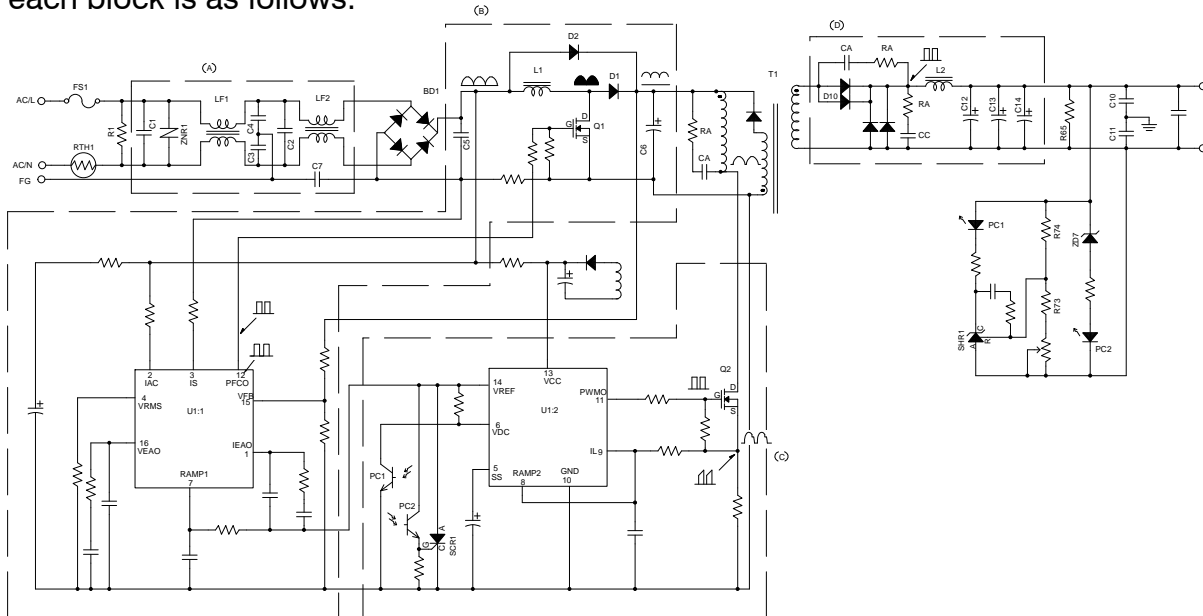

Figure 1.13 PFC+PWM Forward circuit
Figure 1.13 shows a typical Forward circuit with PFC and PWM. The functionality of each block is as follows:
- (1) Inrush Current Limiting - RTH1 (thermistor) suppresses the inrush current during cold start. Thermistor is a resistor whose resistance changes in indirect proportion to temperature, which is why it is called a NTC (Negative Temperature Coefficient) Thermistor. At cold start, the high resistance suppresses inrush current; after starting up for a while, the resistance decreases to reduce power consumption in normal operation. S.P.S. of middle/high power rating uses a circuit comprising TRIAC and relay to have lower conduction loss. Please refer to Section 2.3 for detailed information.
- (2) Anti-Lightning Surge – ZNR1 (transient/surge absorber) is a resistive component. Part number 471, commonly used in our products, it possesses high resistance at normal condition. As the voltage across it increases, its conductivity also increases; the resistance decreases greatly when the voltage across it reaches 470VDC or 332VAC, and the conductive current is around 1mA. With that characteristic, the transient/surge absorber is able to bypass the abnormal surge voltage so as to effectively inhibit the surge voltage from entering the S.P.S.
- (3) EMI filter – As show in block (A) of figure 1.13 (excluding ZNR1, the surge absorber), this module of EMI filter is commonly used at the input side of our products to filter out noises interference. Basically, it consists of three types of components, which are X capacitor, Y capacitor, and common-mode choke. The functionality of each component in block (A) is as follows:
- (4) Input Rectification – BD1 (bridge rectifier) rectifies AC input voltage to DC level with twice frequency of AC main(Ex: $60\text{Hz} \times 2 = 120\text{Hz}$)
- (5) PFC (Boost) Circuit - Block (B) in figure 1.13 consists of Q1, D1, L1, and U1:1 (PFC controller) boosts the voltage to 380VDC. The main function of the block is for power factor correction, to approximate the waveform of input current to sine wave, and to reduce harmonic current to correspond to the demand of CE regulations. Either active or passive PFC circuits can be used. Passive PFC circuit uses a low-frequency transformer comprising a core made of silicon steel sheet to upgrade power factor figure from 0.5 to 0.7; active PFC circuit upgrades it to 0.95.
- (6) PWM Control at Primary Circuit – Block (C) consists of U1:2 (PWM controller) and Q2 (main power transistor) converts DC voltage from PFC circuit to high-frequency pulse train signal, so as the high-frequency transformer can increase/decrease it to get lower conversion of output voltage.
- (7) Isolation Transformer – Its (T1) main functions are isolation and decreasing voltage level. Temperature rise and the ability to meet withstand voltage rating of safety regulations are the main considerations when designing the transformer.
- (8) Output Rectification – Block (D), consisting of D10, L2, and C12~C14, rectifies and filters the high-frequency DC pulses to a steady DC level.
- (9) Feedback Control Loop – The loop, consisting of R74, PC1, etc., senses the divided output voltage to compare with the reference voltage of SHR1, and feedback the signal to PWM control IC (U1:2) through PC1 to regulate the duty cycle of PWM to achieve the purpose of output voltage control.
- (10) Over Voltage Protection Circuit – It consists of ZD7, PC2, etc. When the output voltage exceeds the specified value (ZD7), PC2 conducts to activate SCR1 to pull the reference voltage of PWM IC (U1:2) to ground to cease operation of PWM IC, so as to protect the S.P.S or users' system from damage.
- (11) Snubber Circuit: RA and CA, located in primary side of T1 and secondary rectifiers (D10), are mainly to reduce the high-frequency spikes and oscillation coming from switching transitions of switches or rectifiers, such as Q2 and D10. It also improves EMI performance and decreases withstand voltage on components.